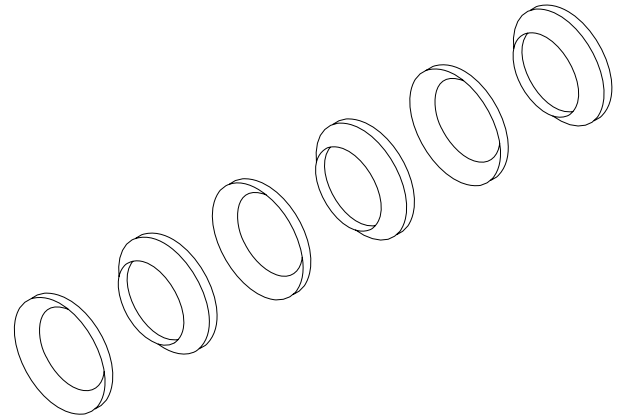

Figure 43: Spring Washer Assembly Sequence
11. Place the six (6) spring washers onto shaft with the first, third, and fifth ones concave (cupped) side forward. The second, fourth, and sixth ones should be cupped side rearward (see Figure 43).
- All six (6) spring washers **MUST** be replaced alternately as shown in Figure 43, or the applicator will malfunction.